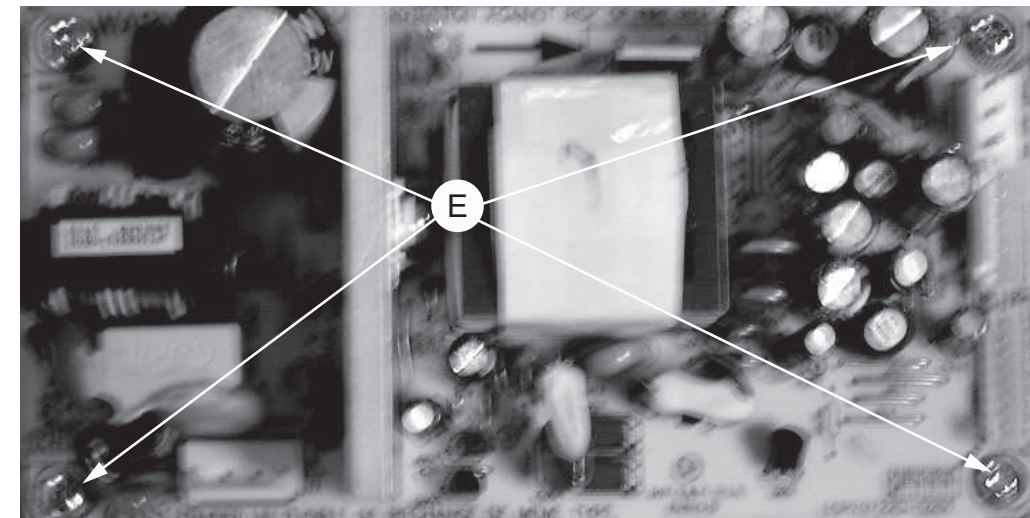

figure 7
1) Loosen 4 screws "D" on the top of board as shown in figure 7